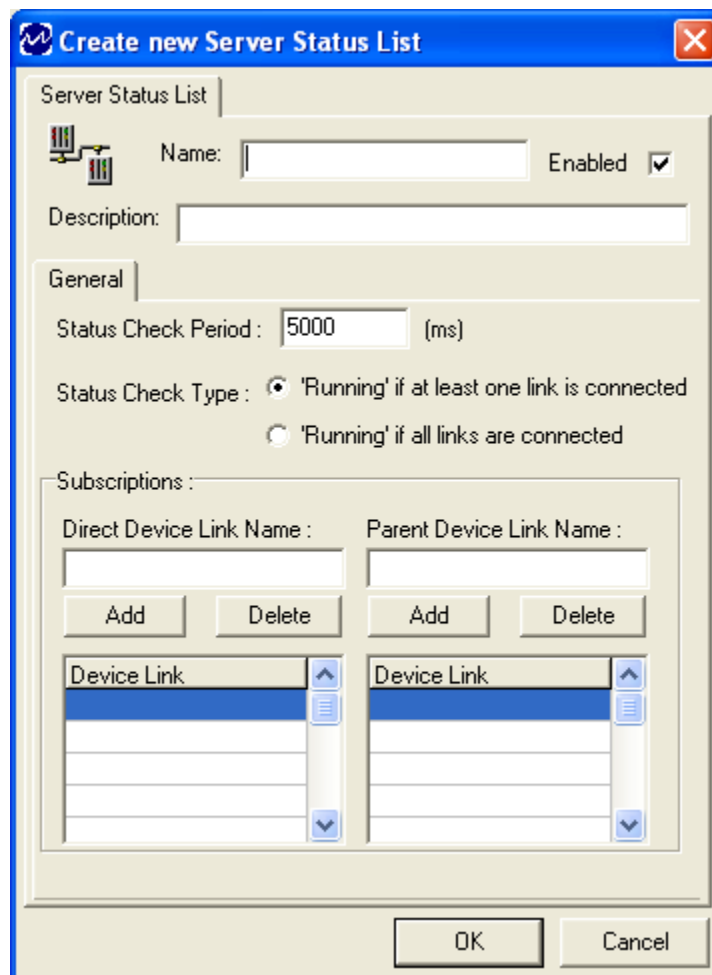

Figure 29 - Create New Server Status List Window
The **Create New Server Status List** window (Figure 29) displays the settings available for configuring a Server Status List object.
- The **Create New** window appears (Figure 29).